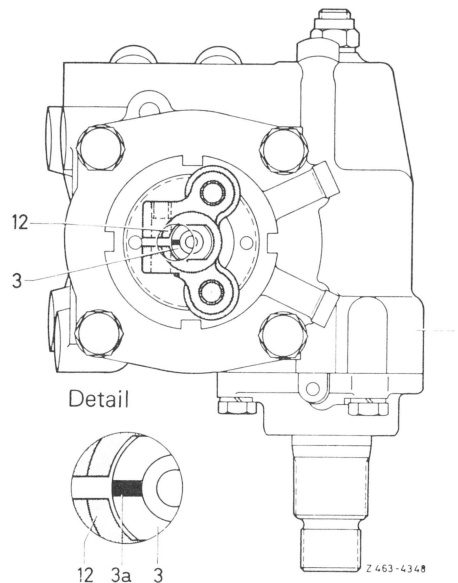

Fig. 14
In center position of the steering the two surfaces on the steering coupling (12) for receiving the steering spindle are horizontal, if the steering coupling has been mounted correctly in relation to steering worm (Fig. 14).